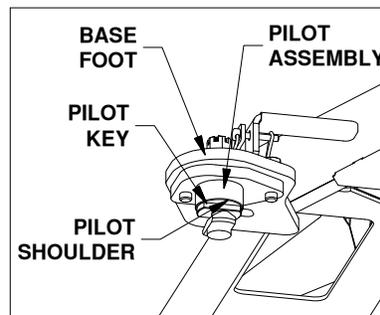
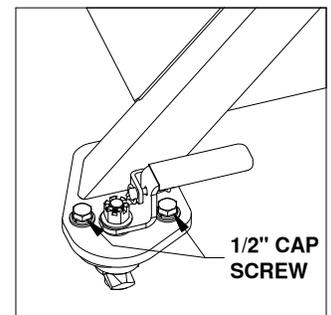

FIGURE C3: View under base foot
FIGURE C4: View of a base foot.
2. Each leg of the Companion base has an adjustable pilot assembly which is attached to the foot with two 1/2" cap screws, as shown in Figure C3. To adjust the pilot assemblies that do not fit into the attachment points, loosen both the 1/2" cap screws so the pilot assembly can move freely, see Figure C4. Set the base over the attachment points and adjust the pilot assemblies until the pilot keys pass through the slot in the attachment points and the pilot shoulders rest flat against the top of the attachment points. When all the pilot assemblies are aligned and inside the attachment points, push the base towards the cab and use a tape measure to verify that the base is approximately square with the truck bed. Tighten any loose cap screws to 80 ft-lbs.